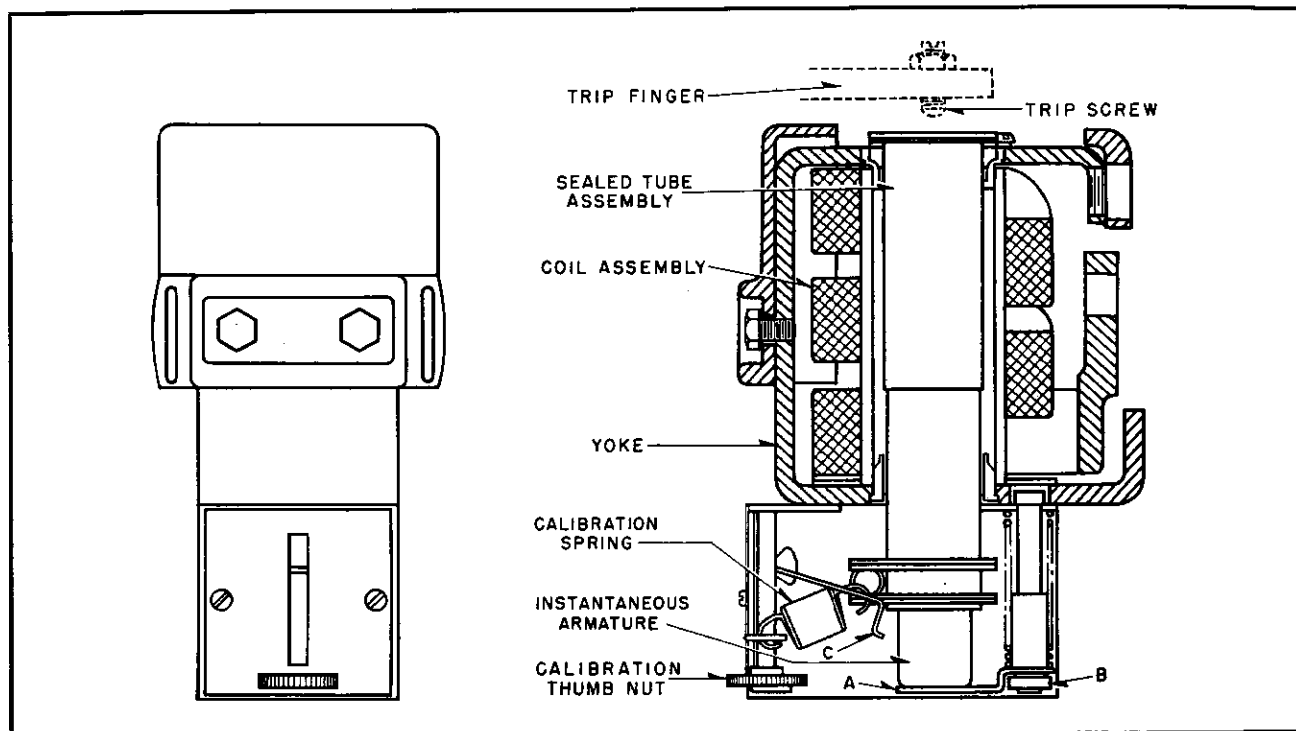

FIG. 7A. Overcurrent Tripping Device—Construction Details
The calibration setting can be adjusted by lifting the support plate (A, Fig. 7A) and turning nut (B, Fig. 7A) clockwise to lower the setting, and counterclockwise to raise the setting. The calibration setting must not be adjusted to less than 500 percent setting or greater than 1500 percent setting. The 500 percent setting is approximately  $\frac{1}{4}$  inch above the 1000 percent setting and the 1500 percent setting is approximately  $\frac{3}{32}$  inch below the 1000 percent setting.
The trip screw mounted on the trip finger above the sealed tube (see Fig. 7A) should be adjusted after mounting the tripping device so there is approximately a  $\frac{3}{8}$ -inch space between the tube and the screw. Then check for overtravel of the tube by pushing upward on lever (C, Fig. 7A) to raise the tube and trip the breaker. The tube should overtravel approximately  $\frac{1}{32}$  inch after the breaker has tripped. Turn the trip screw if necessary to obtain the overtravel.
**Maintenance.** The sealed tube (see Fig. 7A) should move upward freely on overload without undue friction and after it has tripped the breaker, it should immediately drop until the flange resets against the magnetic frame.
To maintain, push upward on the calibration lever (C, Fig. 7A) as indicated by the arrow, to raise the tube. The tube should go up freely except for the force exerted by the calibration springs and it should drop when released. If the tube does not move freely, add graphite or preferably molybdenum disulfide to the surface of the tube which is exposed when the tube is raised.